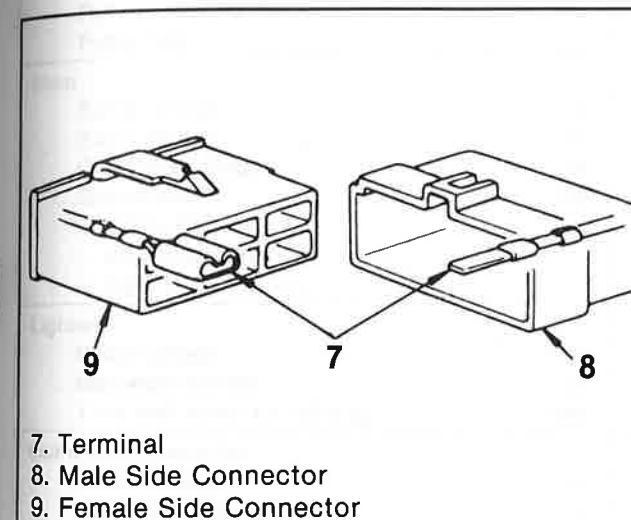

Figure 27. Connector Terminal
The connector terminal shape (7) determines whether the connector is male (8) or female (9) (figure 27).
The connector housing configuration does not determine whether a connector is male or female (figure 27).